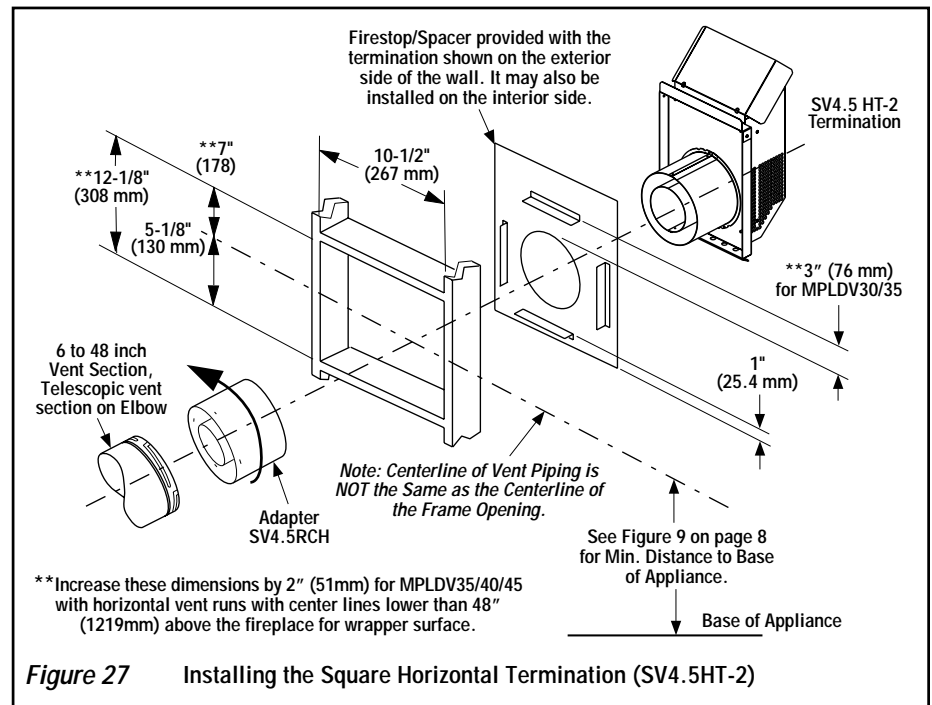

Figure 27 Installing the Square Horizontal Termination (SV4.5HT-2)
M. Attach termination adapter - Attach the adapter (SV4.5RCH - provided with the termination) to the vent section or telescoping vent section), elbow as shown in **Figure 27** in the same manner as any SV4.5 vent component (refer to Step F).
N. Install Firestop/Spacer at exterior wall - When using the **square** termination, install the SV4.5HF (Secure Vent) or SF4.5HF (Secure Flex) Firestop/Spacer over the opening at the exterior side of the framing (long side up) as shown in **Figure 27**, and fasten into place. Ensure 5" clearance is maintained by framing above the vent run for MPLDV35/40/45 when center line of the run is **lower** than 48" (12119 mm) above the fireplace top wrapper surface.